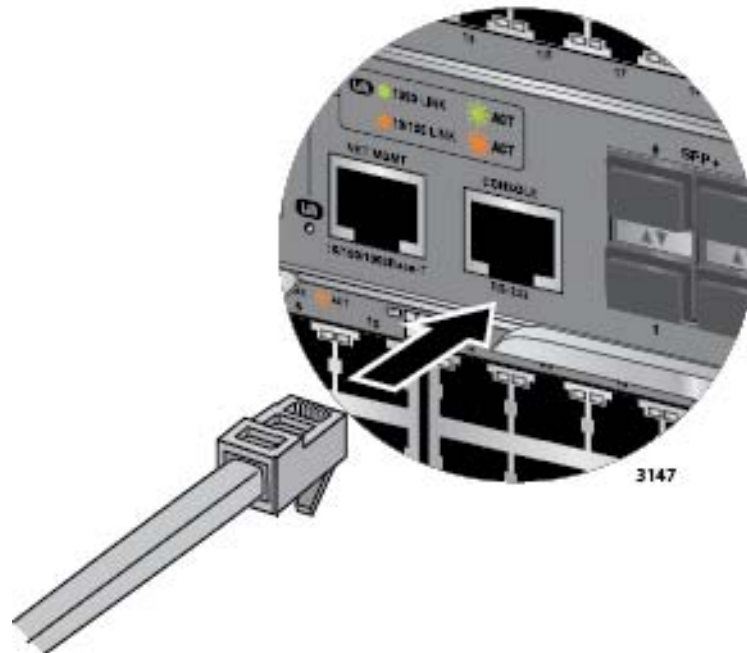

Figure 155. Connecting the Management Cable to the Console RS-232 Port
1. Connect the RJ-45 end of the management card included with the AT-SBx31CFC960 Controller Fabric Card to the Console RS-232 port on the front panel of the AT-SBx31CFC960 Card, as shown in Figure 155. If the chassis has two controller cards, you must connect the cable to the Console RS-232 port on the active card. To determine which card is the active card, examine the M/S LEDs. The LEDs are green on the active card and amber on the standby card.